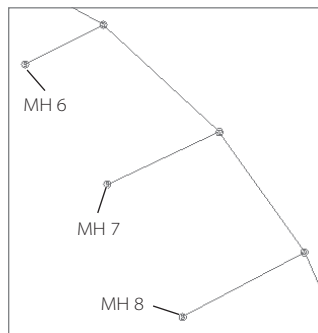

Figure 13.9
14. Use Prospector to change the names of the two new manholes to the names shown in Figure 13.9.